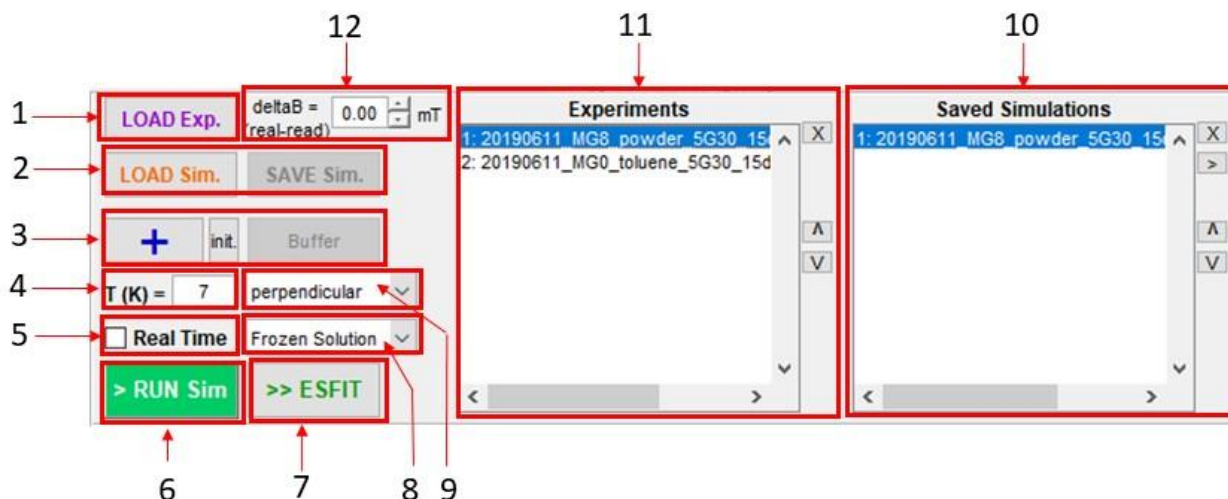

Figure 3: menu and spectra lists sections of the main window
- From the main panel, type the temperature (fig3 n°4. Optionnal, 100K by default), the simulation mode (fig3 n°8. Frozen solution by default) and the field mode (fig3 n°9. Perpendicular by default),
- Click on « + » button (fig3 n°3) from the main window to create a new component parameters window
- When the parameters have been set, click on « Run Sim » in the main panel (fig3 n°6) to run the simulation.
By checking « Real time mode » box (fig 3 n°5), the user will be able to conveniently visualize in direct each changing of one parameter.
- The first step is to « Load » one or several experimental spectra (fig3 n°1).
- Temperature (fig3 n°4), the simulation mode (fig3 n°8) and the field mode (fig3 n°9) still have to be set.
To launch the fitting mode, click on the « ESFIT » button of the main panel (Fig3 n°7). The following tab (see fig 7) will open. It is summarized all the parameters from the chosen simulation.